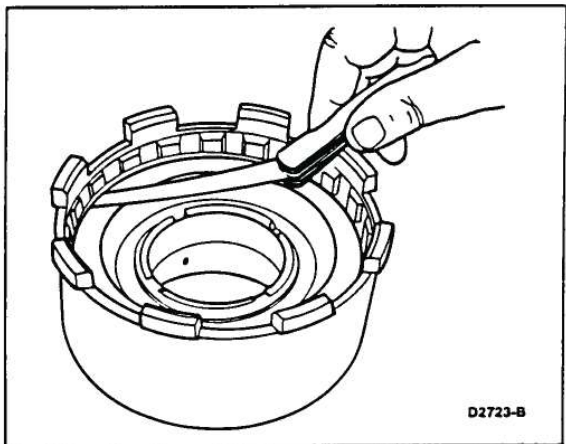

FIG. 30 Clearance Check Between Pressure Plate and Retaining Ring
7. Use a feeler gauge to check the clearance between the retaining ring and the pressure plate (Fig. 30). Push downward on the plates while making this check. The clearance should be to specification. If the clearance is not within specification, install a different, suitable retaining ring. Refer to Specifications for the clearance specification and the available retaining ring sizes.